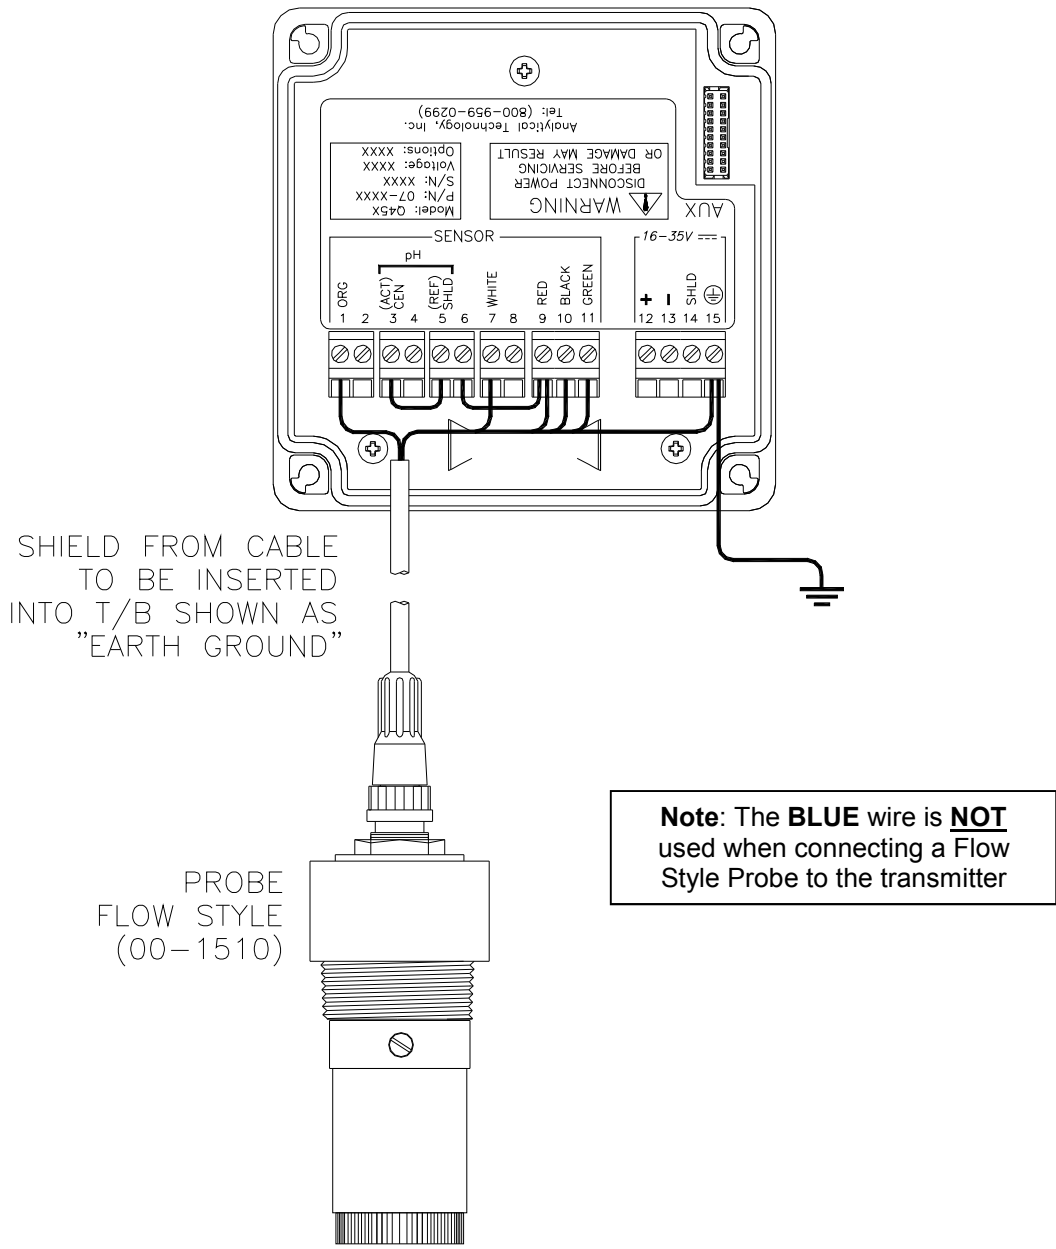

Figure 12 - Loop-Power Sensor Connection
1. Use wiring practices that conform to all national, state and local electrical codes. For proper safety as well as stable measuring performance, it is important that the earth ground connection be made to a solid ground point from terminal 15 (Figure 12).
Q45H units ordered with the external connection option are designed for applications where power is to be supplied from an external source, and the two voltage outputs are to be wired to an external device. Figure 12 identifies the terminal connections for external powers.
Sensor connections are made in accordance with Figure 12. The sensor cable can be routed into the enclosure through cord-grips supplied with the unit. Routing sensor wiring through conduit is only recommended if a junction box is to be used. Some loose cable is needed near the installation point so that the sensor can be inserted and removed easily from the flowcell.